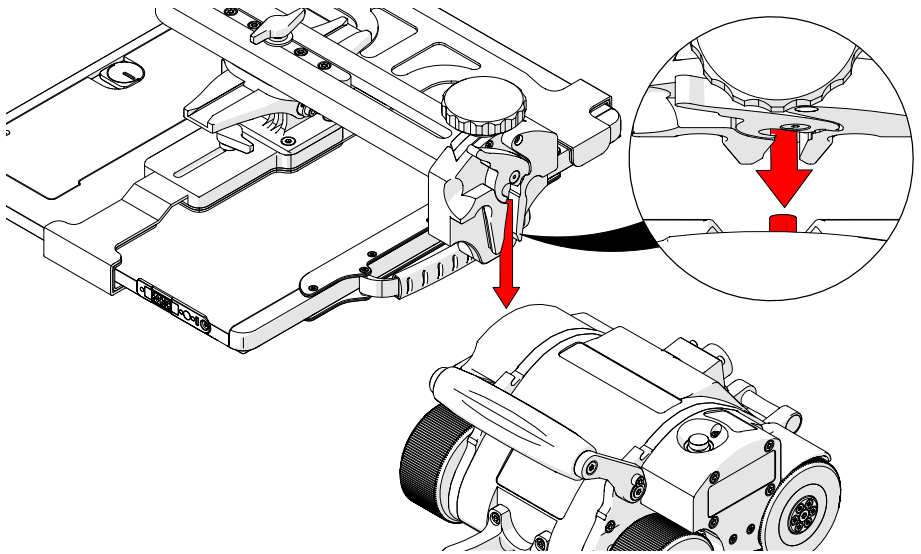

Fig. 51 - Align detector bracket groove with crawler's dowl
2. Align the groove of the detector bracket with the dowl of the **SKOOT•X** crawler (Fig. 51).